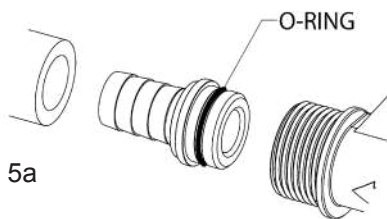

Figure 5a
5. Tighten each hose clamp to secure suction and discharge hoses to all barb fittings to prevent fluid leaks (Figure 5a - 5c).
5. Install Discharge Hose with nozzle to discharge side of pump with included barb fittings and hose clamp (see Figure 5a-b, page 5).